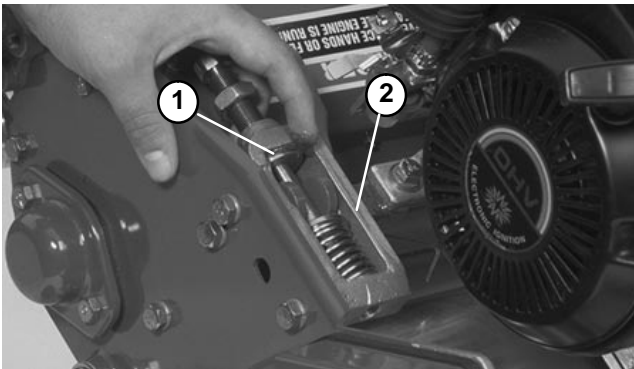

Figure 25
2. Use grease to hold thrust washers against the inside of both frame adjusters (Fig. 25).